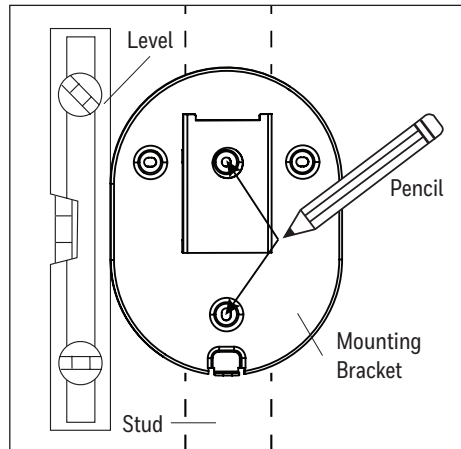

Figure 1.2
2. Use a stud finder (sold separately) to locate the stud to which the fan will be mounted. Determine the desired height of the mounting bracket. Hold the mounting bracket against the wall and use a level (sold separately) to ensure the mounting bracket is level with the horizon. Then, use a pencil and mark the center of the two holes in the center of the mounting bracket. Note: When determining the location of the fan, ensure proximity to 120 V grounded outlet. The wall fan's power cord is 9 feet in length (Figure 1.2).